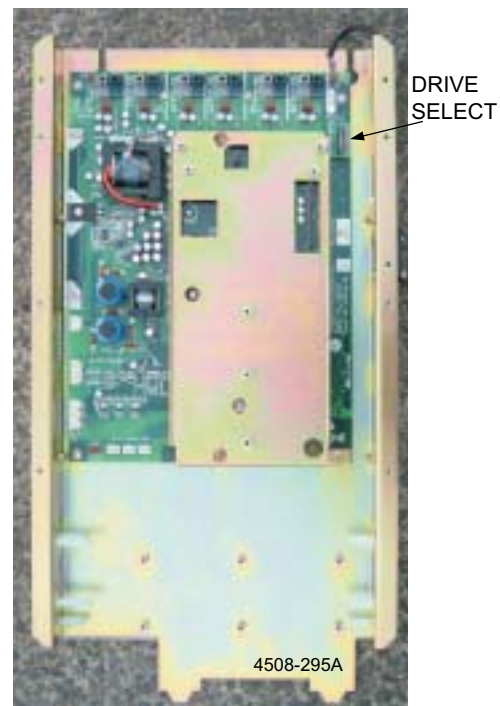
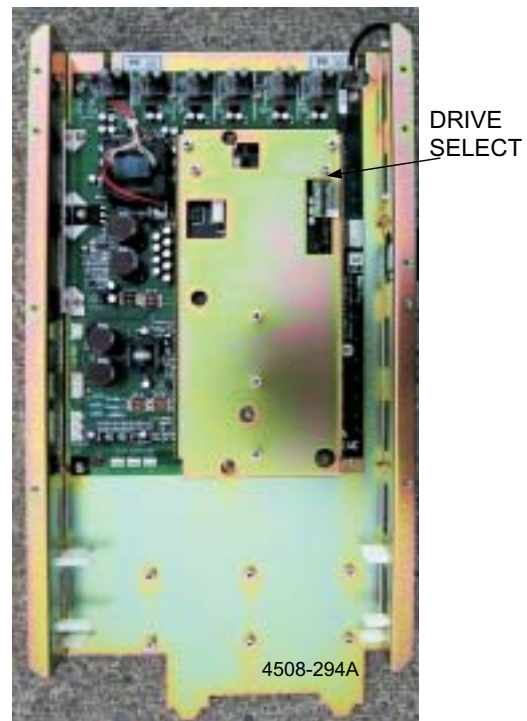

Figure 6.9: 400V Power tray
Figure 6.10: 500V Power tray
- 2) When the Control board has been removed, put it onto the new Power tray. For 500V models, move the Drive Select board to the new Power Tray, see figure 6.10. For 400V models, this can be done after the Control board is in place, see figure 6.9.